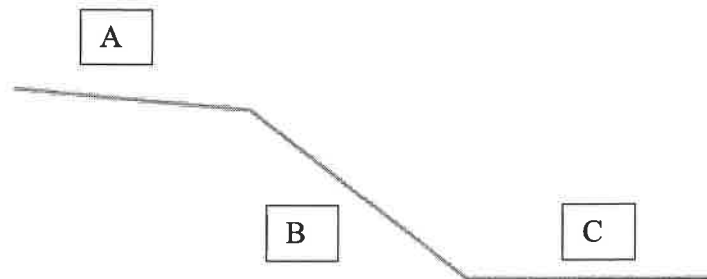

Figure Q1: Canal sections A, B, and C
- (b) A man made channel has a certain section in which the slope varies as shown in the Figure Q1. Section A has a slope of 1° , section B has a slope of 2° and section C has a slope of 0.1° . The channel is a lined concrete channel with a rectangular shape. The channel is designed to carry $3 \text{ m}^3/\text{s}$. The channel width is 2.0 m . Manning's $n=0.015$.